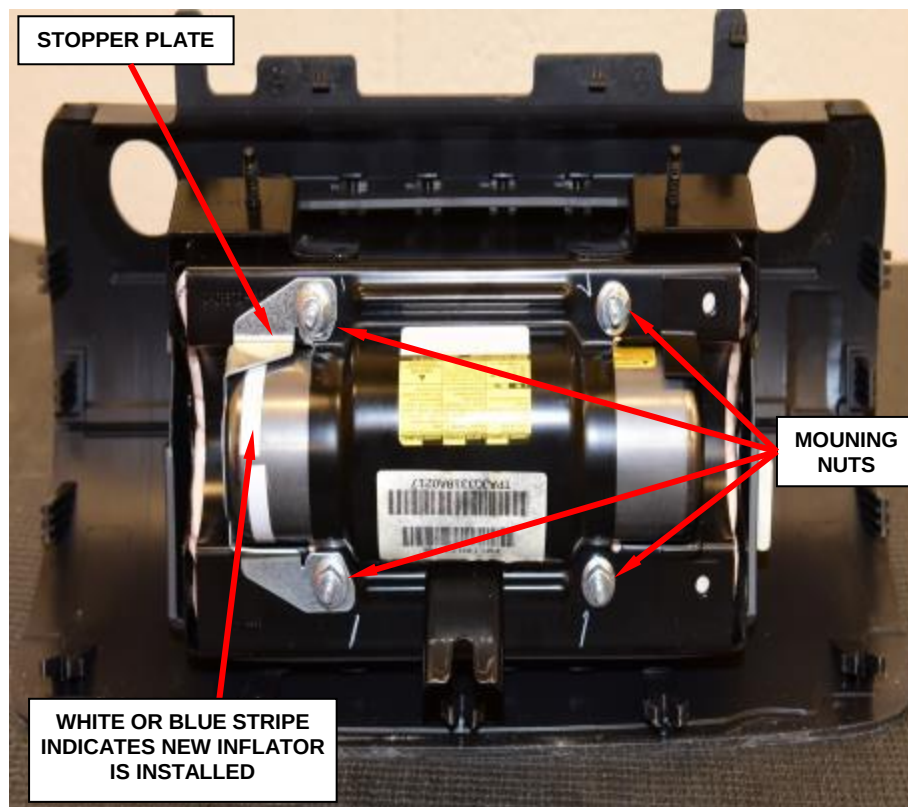

Figure 177 – Retrofit Complete
- g. Place the fabric gasket, glossy side up, onto cushion. Mistake-proof tab should be aligned to the tab on the cushion (Figure 177).